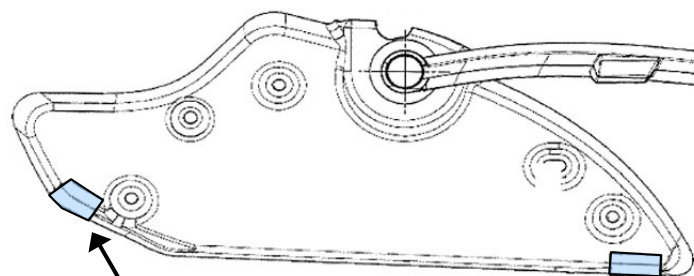

Figure 37f
- If felt cloth is found under the flipper doors where pointed out in Figure 37f, skip to step 39.
38. Cut six 20 mm x 30 mm pieces from the 3 mm sheet (three for each flipper door), and then apply under both flipper doors as shown in Figure 37f and 38f.